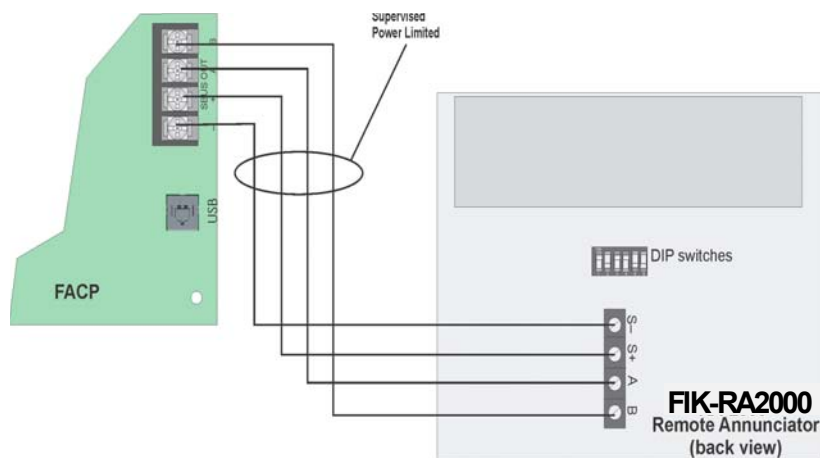

Figure 7 SBUS Connections
3. Wire the annunciator board to the main control panel. See Figure 7.
3. Connect the wires from the FIK-RA2000 to the SBUS connectors on the FACP. See Figure 7.
Wire the FIK-RA2000 to the FACP as shown in Figure 7.
3. Connect the FIK-RA2000 to the panel (see Figure 7).